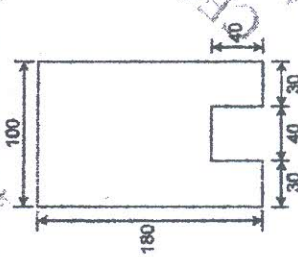

Fig. 2
- b) A groove $40 \text{ mm} \times 40 \text{ mm}$ is cut symmetrically at the bottom of a rectangular beam section as shown in fig. 2. If the tensile stresses shall not exceed 25 N/mm^2 , Find the safe uniformly distributed load which the beam can carry on a simply supported beam of a span 4 m . (All dimensions are in mm) [6]